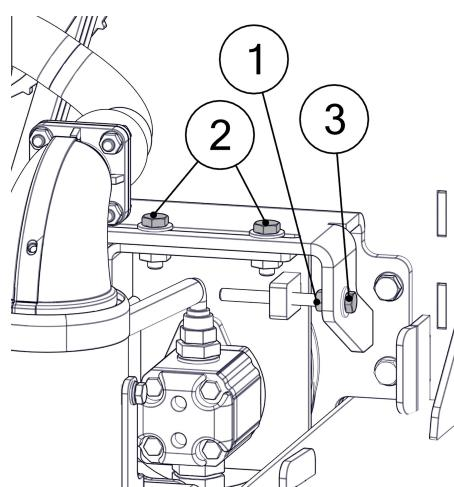

Figure 24 - Pump belt adjustment
3. Loosen the M8 hex nut (Figure 24, Item 1) to the end of the thread.
4. Loosen the two M10 screws (Figure 24, Item 2) by one turn.
5. Adjust the M8 tensioning bolt (Figure 24, Item 3) until the correct belt tension is achieved. (Refer to Section 6.12 "V-Belt Tensioning Procedure" on page 55.)
6. Tighten the two M10 securing screws (2).
8. Tighten the M8 hex nut (1).